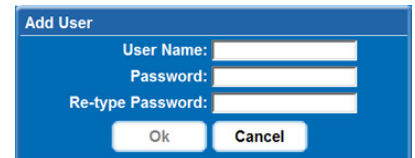

FIGURE 4-11 ADD USER WINDOW
1. Click **Add User** to open the **Add User** window. See Figure 4-11.